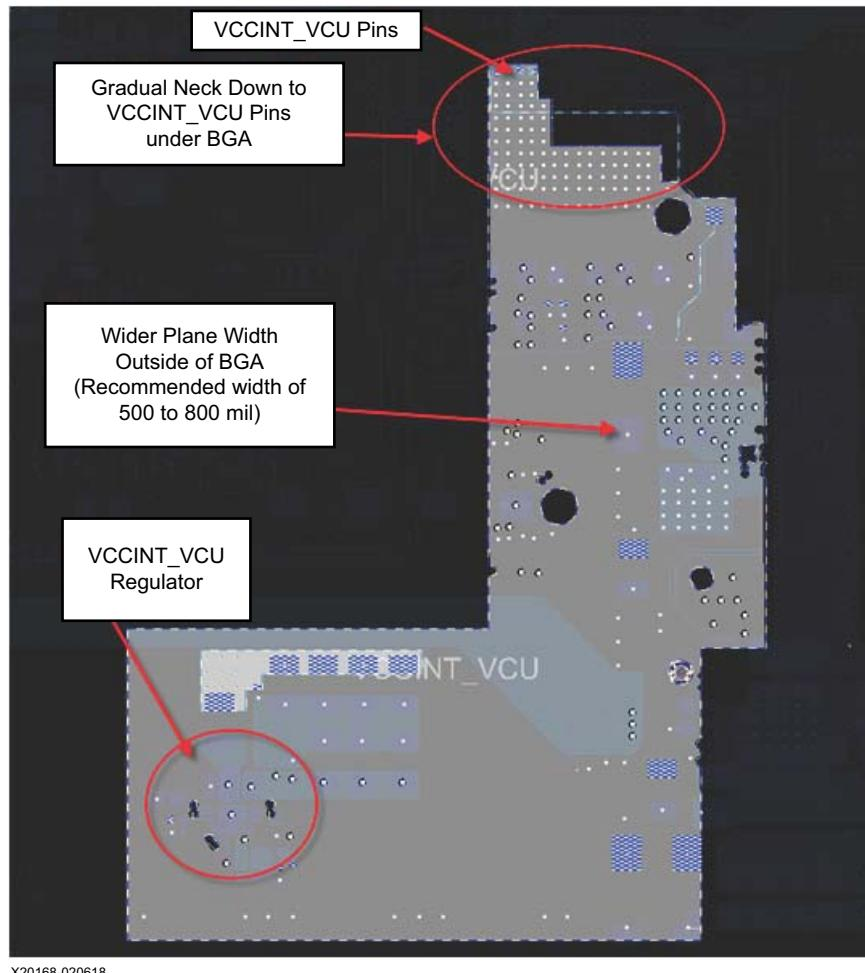

Figure 1-3: Example Plane Layout for VCCINT\_VCU
The VCCINT\_VCU plane(s) or planelet(s) should be wide enough to accommodate up to the required amount of current (per XPE) at their narrowest points, factoring in all width reductions due to vias and other keepouts. However, planes and planelets need to be drawn even wider to reduce resistive losses between the regulator and the BGA pins. While properly routed sense lines offer assistance in offsetting resistive losses, regulator efficiency is maximized when resistive loss is minimized. For these reasons, Xilinx recommends drawing VCCINT\_VCU planes at 500–800 mil(1) width while outside of the BGA region, and 400 mils under the BGA before the plane gradually narrows to the VCCINT\_VCU pins. Figure 1-3 shows an example VCCINT\_VCU plane layout.